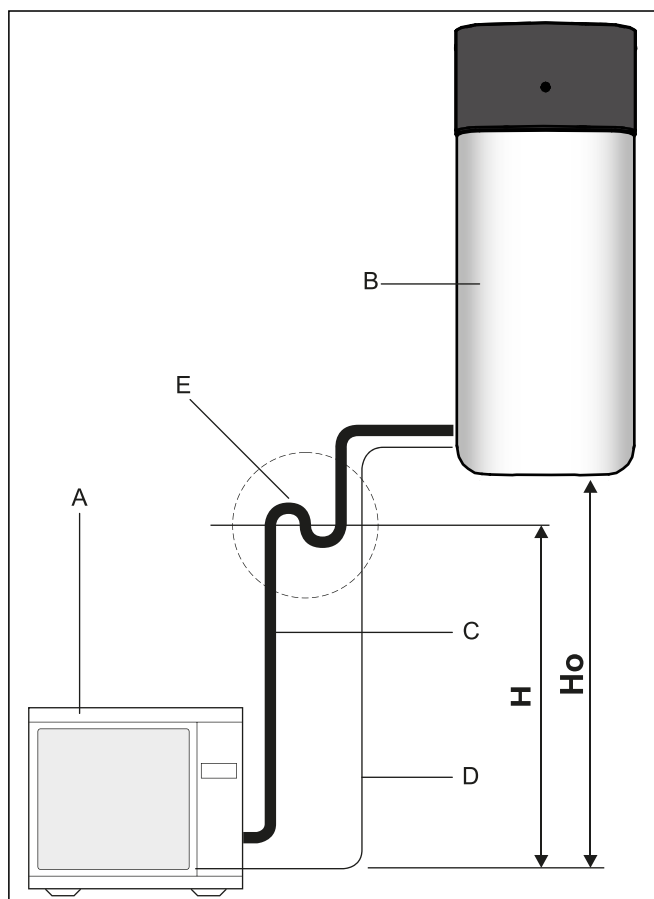

Fig. 4-46 Oil trap bend for refrigerant line
- Required if the indoor unit is not installed at ground level to the external heat pump unit (Fig. 4-46, HO ≥ 10 m).
- At least one oil trap bend must be installed for every 10 m of height difference (Fig. 4-46, H = distance from oil trap bend to oil trap bend).
Tab. 4-10 Legend for Fig. 4-46